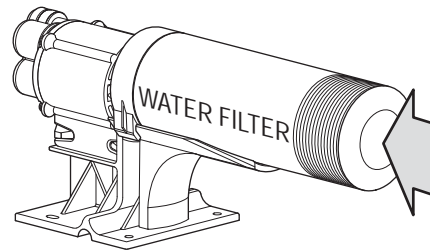
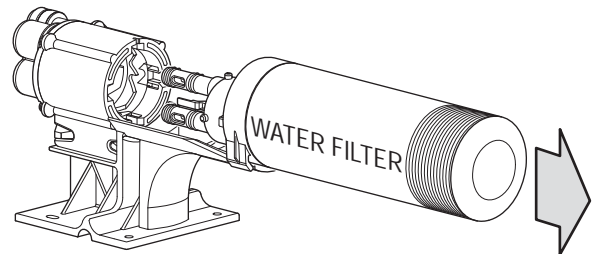

Figure 2-8. Water Filter Removal, Push In
Figure 2-9. Water Filter Removal, Pull Out
1. Remove the water filter cartridge by first pushing it in toward the manifold to disengage it from the manifold spring catch (See Figure 2-8), then pull the filter cartridge straight out (See Figure 2-9).